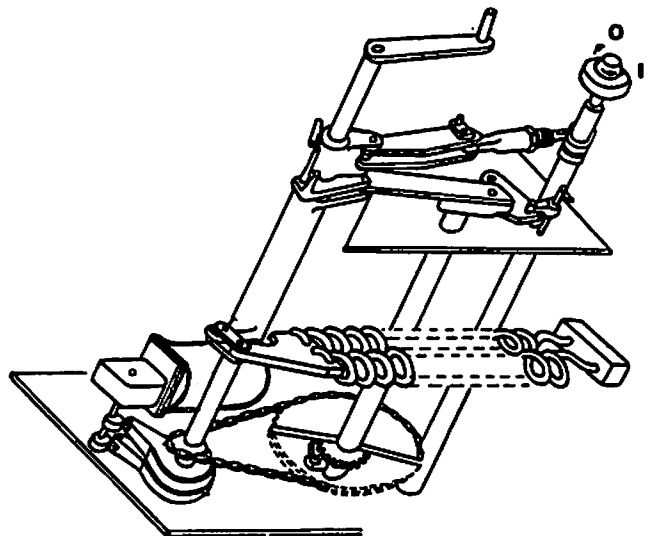

Figure 6d
7.2.4 Breaker Closed with Springs Charged (Figure 6d)